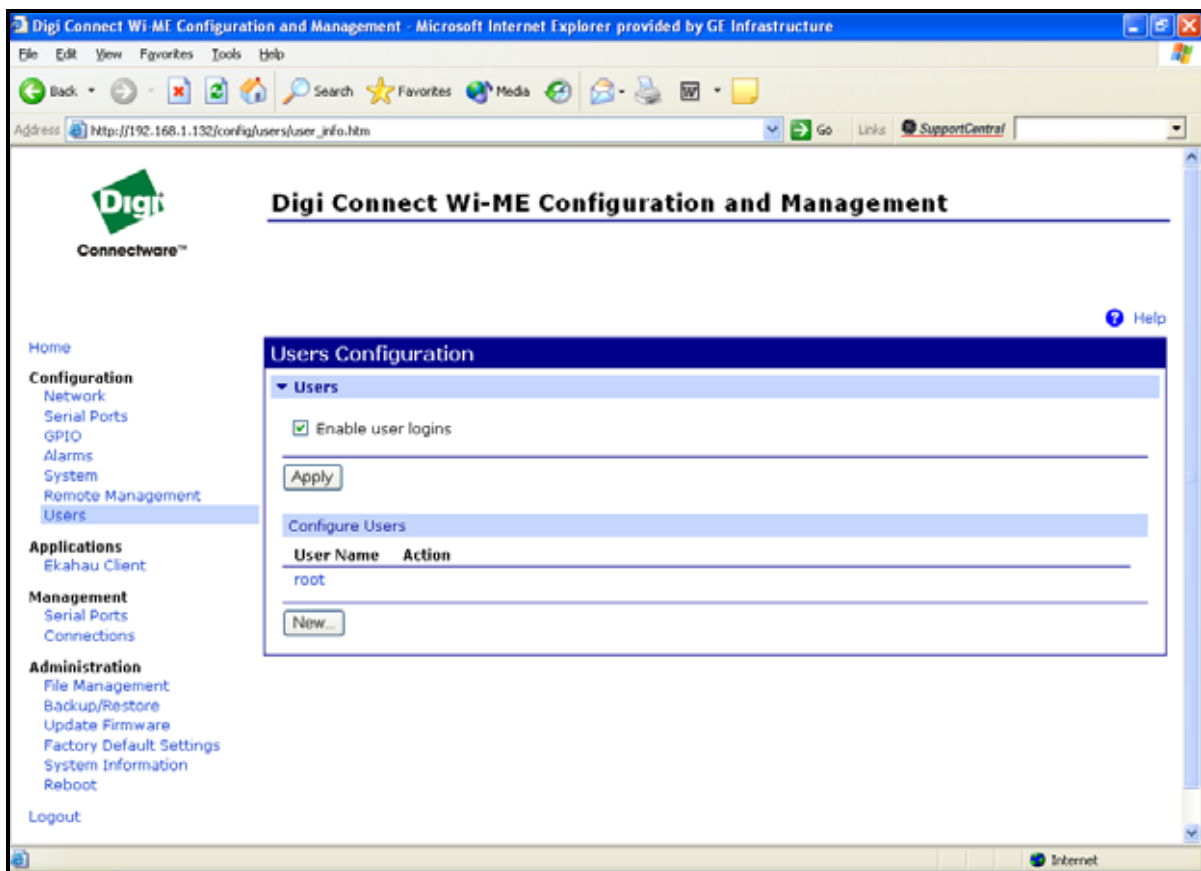

Figure 33: User's Configuration Menu
3. Click on **Login**. Figure 33 appears.